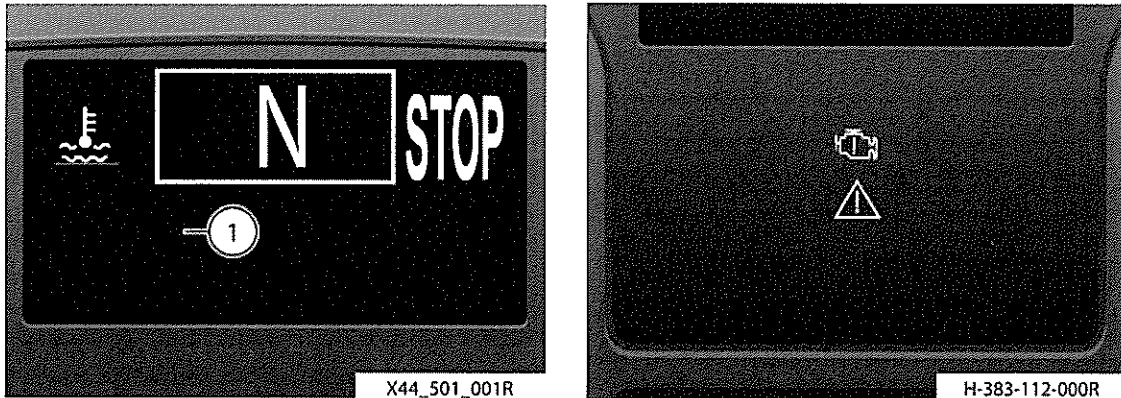

Fig 42 Coolant temperature too high
158 Refer to Fig 42. If the coolant temperature is too high, the STOP sign comes on in conjunction with a message on the driver's display (1), the cooling system check lamp and the engine check lamp. At the same time, the red central warning light comes on and an alarm buzzer sounds. Refer to Chapter 1-2.